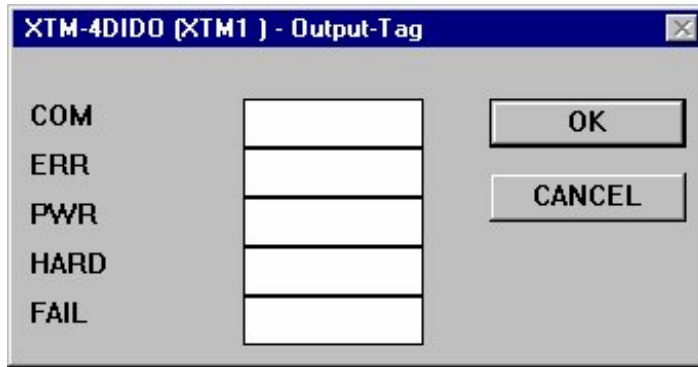

Figure 4-6: Output-Tag Dialog Box Example
3. Click Output Tag (or Input Tag) from Module Data box. Output-Tag dialog box appears (Figure 4-6).